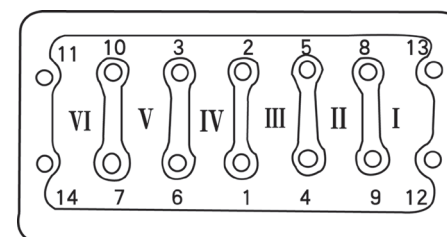

Fig1
Fourteen (14) M18 bolts are tightened in the following order(fig1).